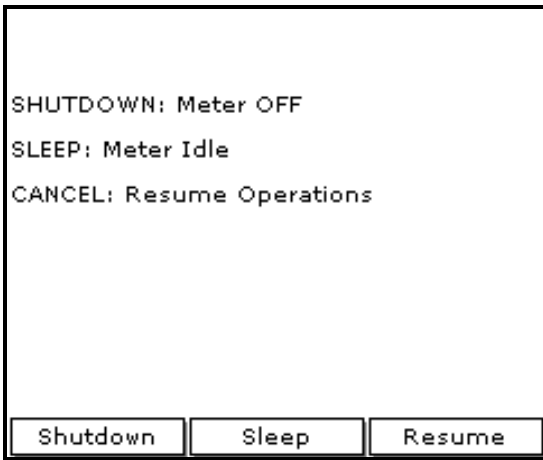

Figure 31: Shutdown Menu
1. Press the red power key for 3 seconds. The screen now appears similar to Figure 31.